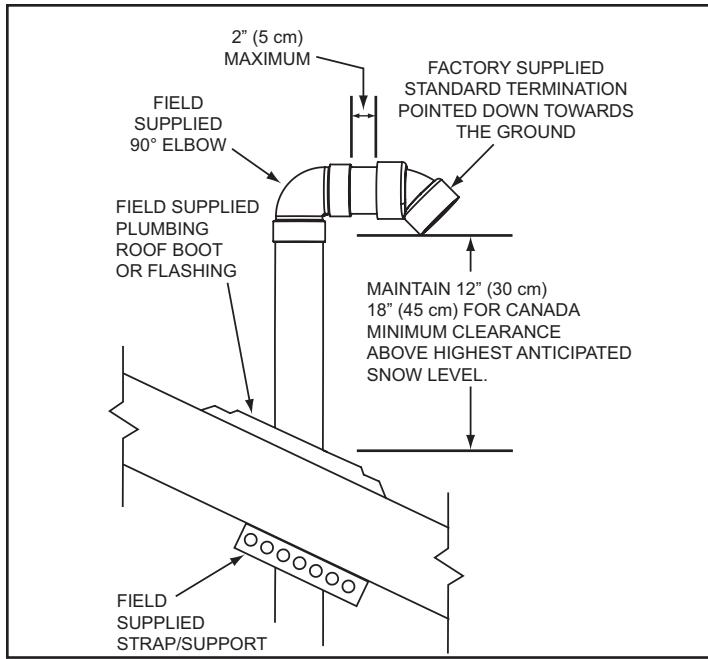
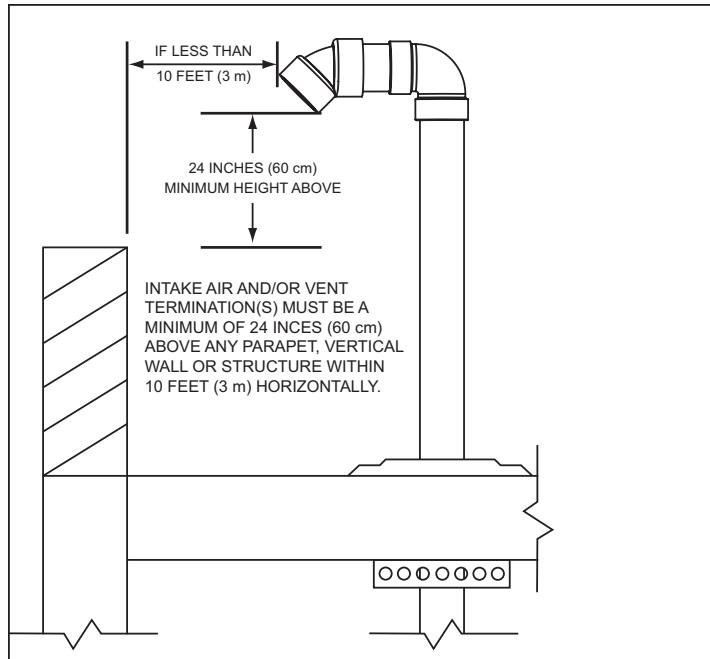
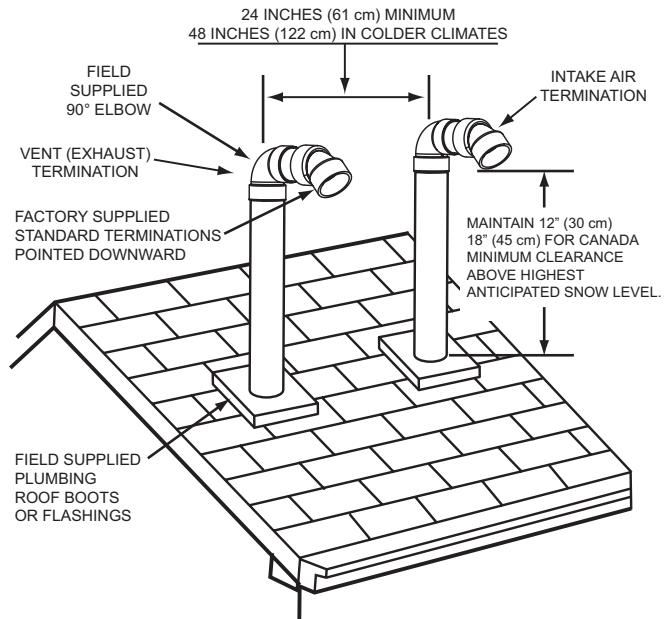

Figure 19. Vertical Termination(s) Installation
Figure 20. Vertical Termination(s) Flat Roof Clearance
Figure 21. Vertical Termination - Direct Vent
2. If installing only the vent (exhaust) piping in a Power Vent configuration vertically through the roof; ensure that all exterior vertical clearance requirements, shown in *Figure 19* and *Figure 20* (page 30), are being maintained. These clearances and those cited by local and national codes must be maintained.
Note: On flat roof installations the vent termination must be a minimum of 24 inches (60 cm) above any parapet, vertical wall or structure within 10 feet (3 m) horizontally. See *Figure 20* (page 30).
3. If installing both intake air and vent piping in a Direct Vent configuration vertically through the roof; ensure that all exterior vertical clearance requirements shown in *Figure 20* (page 30) and *Figure 21* (page 30) are being maintained. These clearances and those cited by local and national codes must be maintained.
Note: On flat roof installations the intake air and the vent terminations must be a minimum of 24 inches (60 cm) above any parapet, vertical wall or structure within 10 feet (3 m) horizontally. See *Figure 20* (page 30).
The vent termination must be oriented facing downward as shown in *Figure 19* and *Figure 20* (page 30).
The bottom edge of the vent termination must be a minimum of 12 inches (30 cm), 18 inches (45 cm) in Canada, above the average or expected snow level as shown in *Figure 19*.
The intake air and vent pipes must penetrate the same side of the roof as shown in *Figure 21* (page 30).
The intake air and vent terminations must be oriented facing downward and in the same direction as shown in *Figure 21* (page 30).
The intake air and vent terminations must have a minimum separation of 24" (61 cm) measured on center line as shown in *Figure 21* (page 30). In colder climates this separation should be increased to at least 48 inches (122 cm).
The bottom edge of the intake air and vent terminations must be a minimum of 12 inches (30 cm), 18 inches (45 cm) in Canada, above the average or expected snow level as shown in *Figure 19* below and *Figure 21* (page 30).
The distance between the closest vent and intake air terminations must be a minimum of 24 inches (61 cm) as shown in *Figure 21* (page 30). In colder climates this separation should be increased to at least 48 inches (122 cm).
- Suspend the pipe(s) through center of hole using field-supplied metal strapping or equivalent support materials as shown in *Figure 19*.
- Slide a roof boot or equivalent flashing over the pipe and secure roof boot or equivalent flashing to roof (see *Figure 19*) and seal around the flashing.
- Install the factory supplied intake air and/or vent termination(s) using field-supplied pipe and one field-supplied 90° elbow as shown in *Figure 19*. The short section of pipe that connects between the field-supplied 90° elbow and the factory supplied termination must not be excessive in length. The exposed portion of this pipe shall be no more than 2 inches (5 cm). See *Figure 19*.